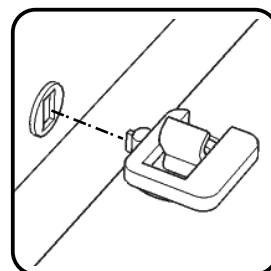

Figure 2
Attach Middle Panel (K) to unit, then flip Locks. (See Figures 2 and 3)